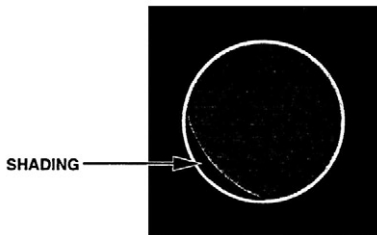

Figure 3-1
If shading is persistent, you will not see a fully circular image (Figure 3-1). Shading is very dark and you cannot see an image through it. Shading always begins on the edge and migrates inward eventually across the entire image area. Shading is a high contrast area with a distinct line of demarcation. Contact ATN or point of purchase for warranty/repair procedures.
<p>Driving ring rotates while threaded ring does not move (see Figure 3-1).</p>	<p>(1) Using hex wrench tighten M3x6 screw which secures driving ring on threaded ring. (2) Point the sight to an object situated at a distance more than 100 m from you. Rotate focus ring to achieve sharp image of the object. (3) Loosen the M3x6 screw and turn the driving ring counter-clockwise to obtain a gap under driving ring lug equal to the thickness of your thumb. (The gap is indicated with arrow, Figure 3-1). (4) Tighten the M3x6 screw.</p>